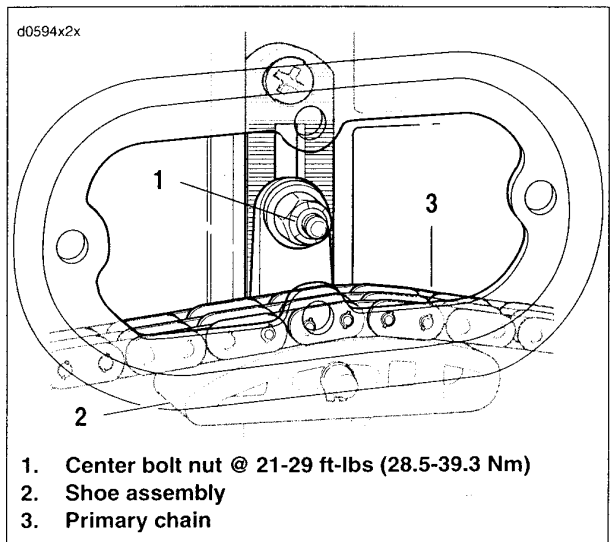

Figure 1-22. Primary Chain Adjustment
5. If freeplay adjustment is required, see Figure 1-22.
- a. Loosen, but do not remove, the center bolt nut (1).
- b. Move the shoe assembly (2) up or down to obtain the specified free play.
- c. Tighten center bolt nut to 21-29 ft-lbs (28.5-39.3 Nm). Replace the primary chain (3) if it is worn to the point where it cannot be properly adjusted.